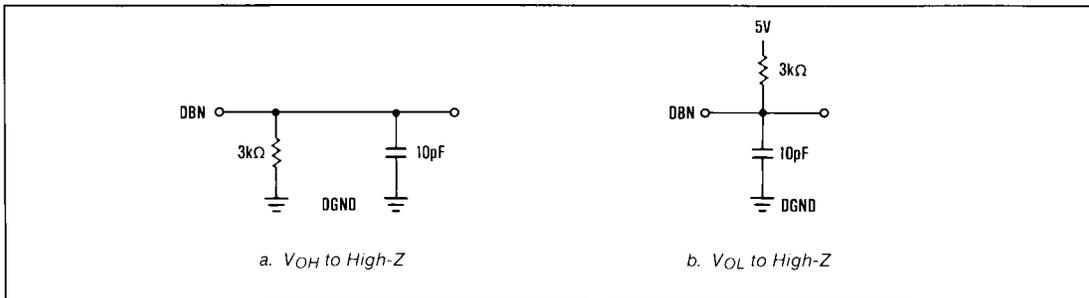

Figure 2. Load Circuits for Bus Relinquish Time
**Note 9:**  $t_7$  is defined as the time required for the data line to change 0.5V when loaded with the circuits of Figure 2.